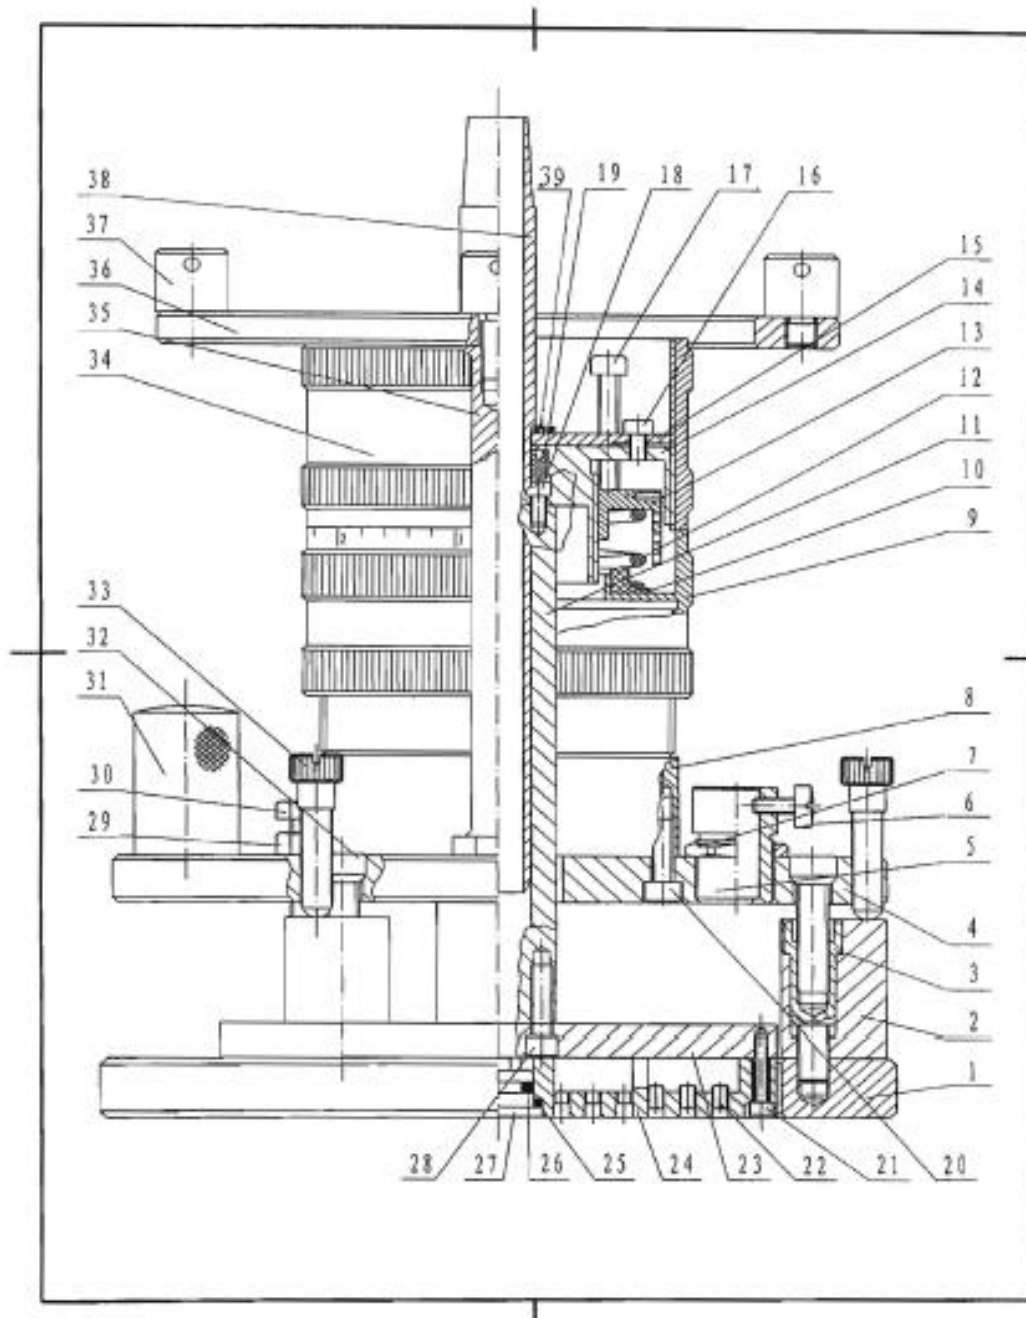

Fig. 1
The structure diagram of PJ-D3 is given in Figure 1. The major components are listed in Table 1.
3. Structural description (see Fig. 1)
The spacer pillar (2) is fixed on the drive ring (1) by the male end of the male/female screw (3) and the female end is matched with the socket head screw (32) that is used to fix the body base plate (4) on the spacer pillar (2). The main sleeve (located inside the covering sleeve (3), not shown in Figure 1) is fixed on the top of the body base plate (4) by six socket head screws (20). This main sleeve combination including 1, 2, 4, 8 and all the parts connected are named “stationary assembly”.
III. Operation (see Fig. 1)